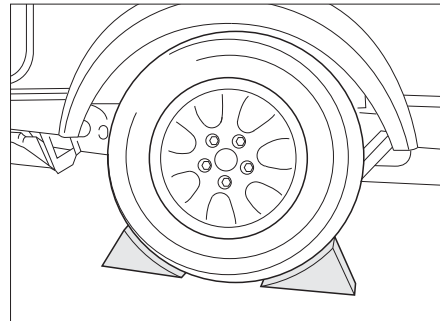

Fig. 171 Securing vehicle
- Place chocks or other appropriate objects beneath the opposite wheel of the vehicle to secure it (Fig. 171).